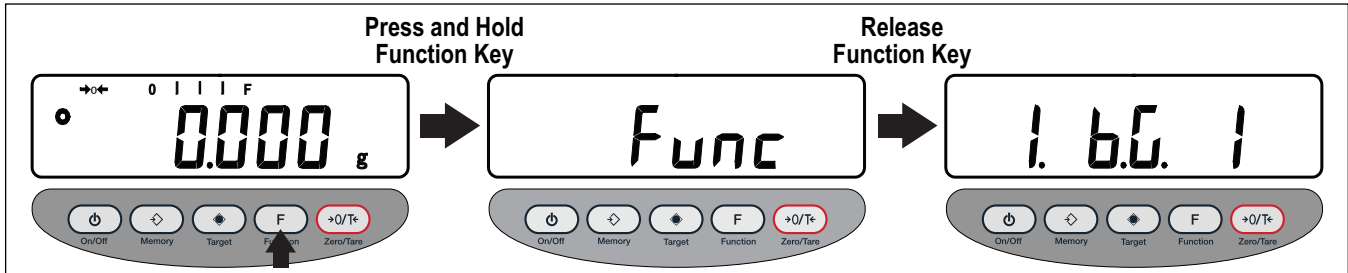

Figure 4-1. Function Menu Entry
1. Press and hold  until **Func** displays, then release the key. The function setup mode is activated and the first parameter, **1. b.G. 1** displays (see Figure 4-1 on page 18).